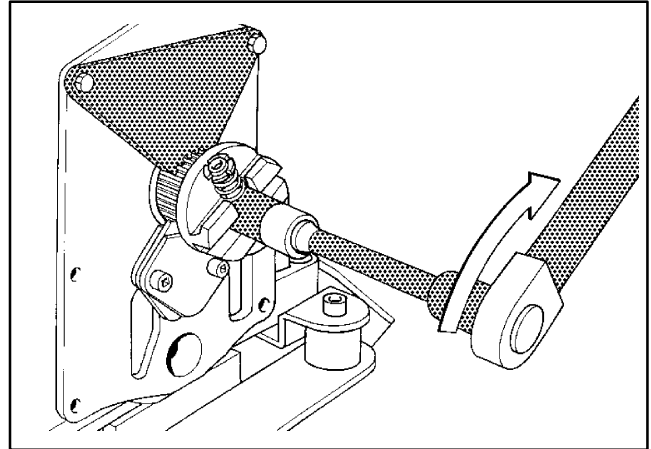

Figure 10-50 Governor
1. Install a holding device and remove the governor pin. See Figure 10-50.